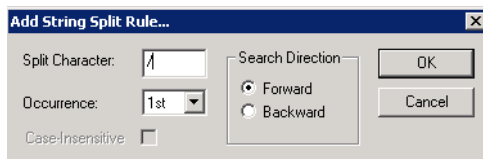

Figure 258. Add String Split Rule
- b. Click the **Add** button associated with the Split String At field. This displays the Add String Split Rule dialog, Figure 258.